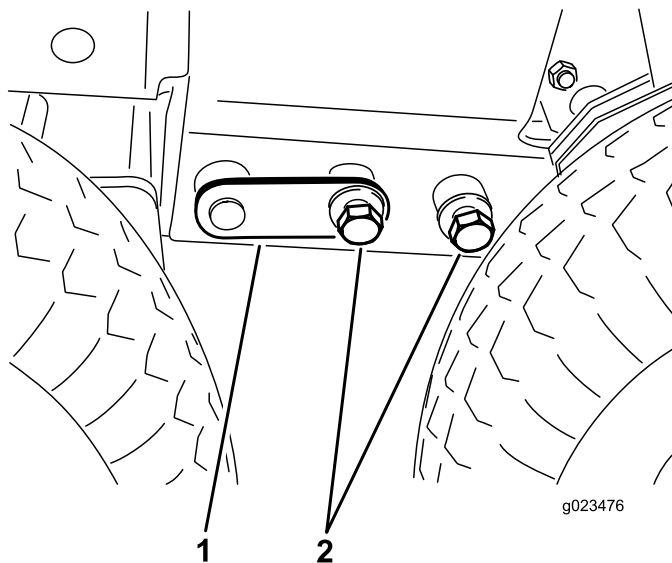

Figure 22
9. Adjust the floor jack to install the bolts (3/4 inch) on each side (Figure 22). Torque the bolts to 265 ft-lb (359 N-m).